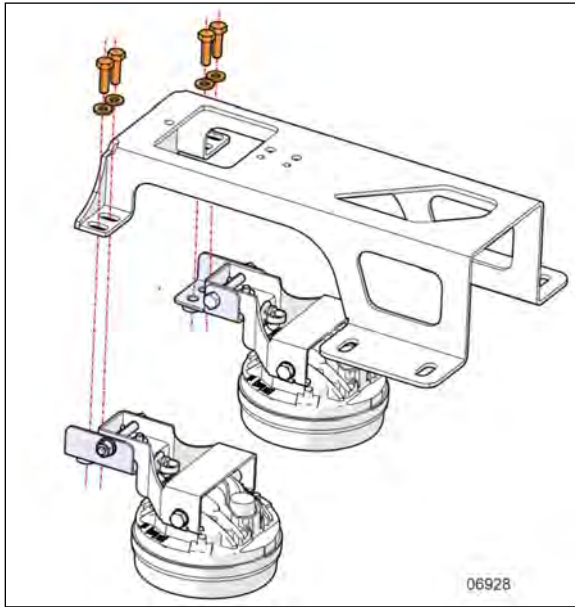

FIGURE 105: FOG LIGHT SUBASSEMBLY DISMOUNT
3. Remove the screws that supports the fog light subassembly on the bumper support (Figure 105).